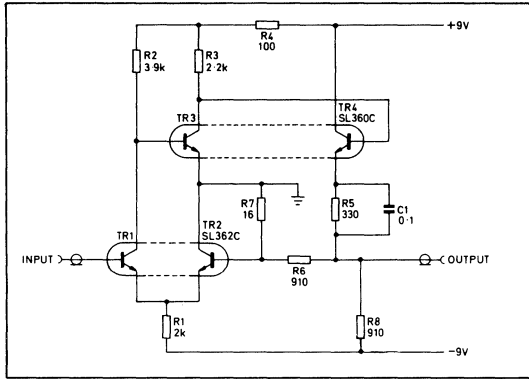

Fig.4 Circuit diagram
**SIMPLE FEEDBACK AMPLIFIER (FIG.4)**